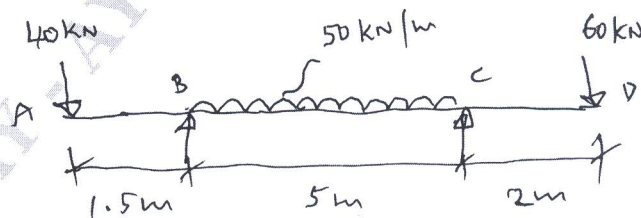

Fig.Q6(c)
c. Draw SFD and BMD for the beam shown in Fig.Q6(c). Indicate the maximum bending moment and its location. Also indicate Point of Contraflexure.